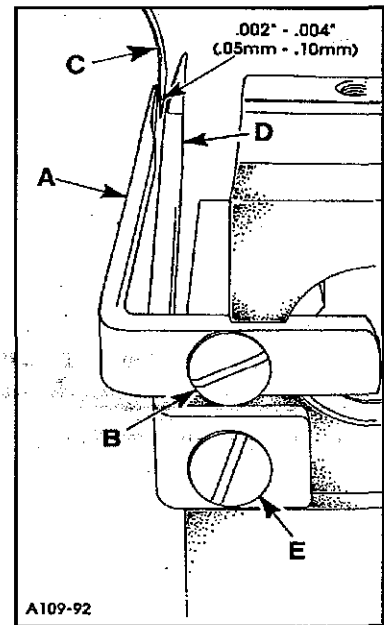

Fig. 13
Remove the throat plate and attach rear needle guard (A, Fig. 13) to the lower knife support block with screw (B). Set the guard dead against needle (C) when the needle is being deflected forward by the point of the lower looper; As outlined in Table IV. This will allow the looper to pass the back side of the needle without deflecting it but also maintains minimum clearance. The rear needle guard maintains the looper-needle relationship at loop taking time. The position of the guard should not interfere with the lower looper or movement of the lower knife holder.
Turn the handwheel in operating direction until the needle is resting on the rear needle guard and the looper point is behind the needle. Attach front needle guard (D, Fig. 13) to the lower knife holder block with screw (E). There should be a clearance of .002" to .004" (.05mm to .10mm) between the needle and the front needle guard. There should be no interference between the front needle guard and the differential feed dog.